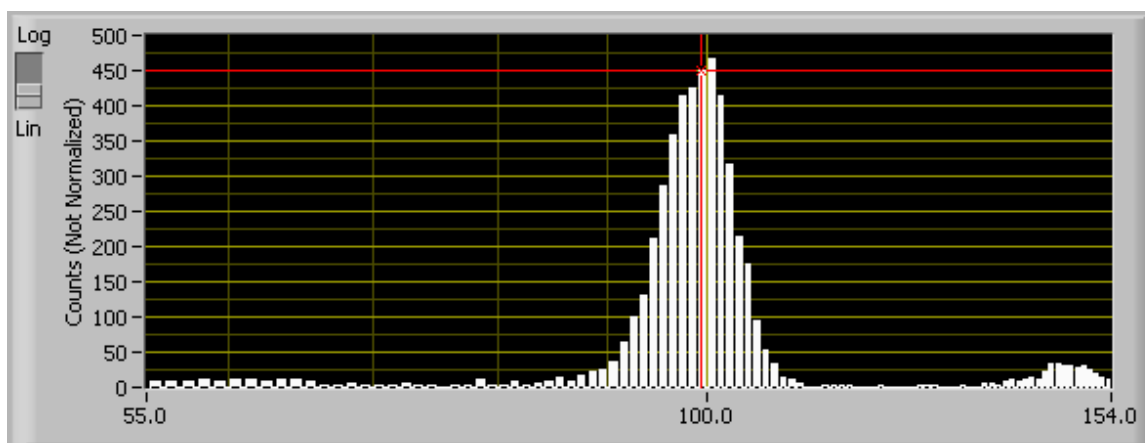
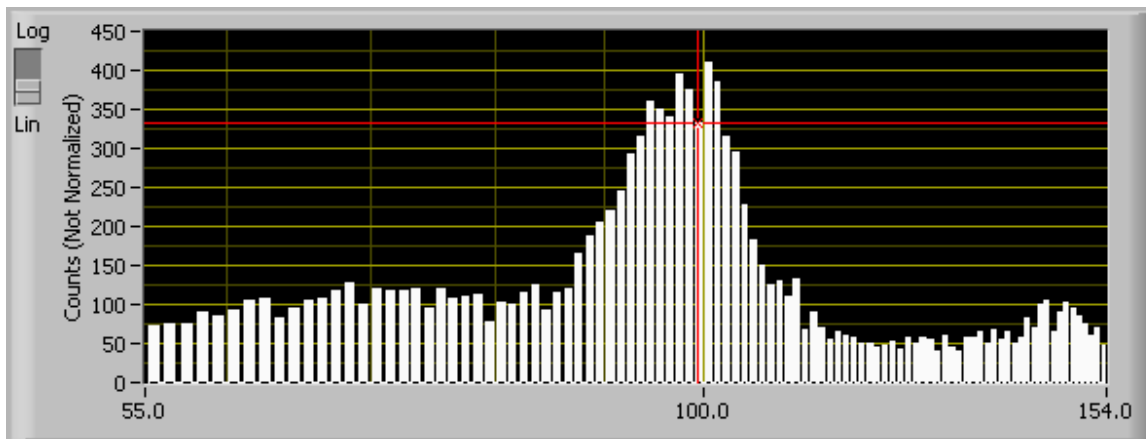
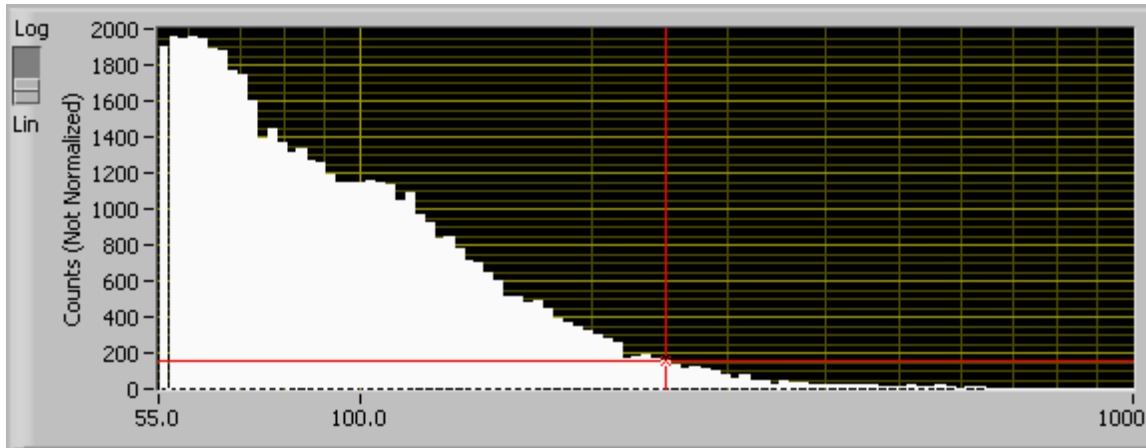
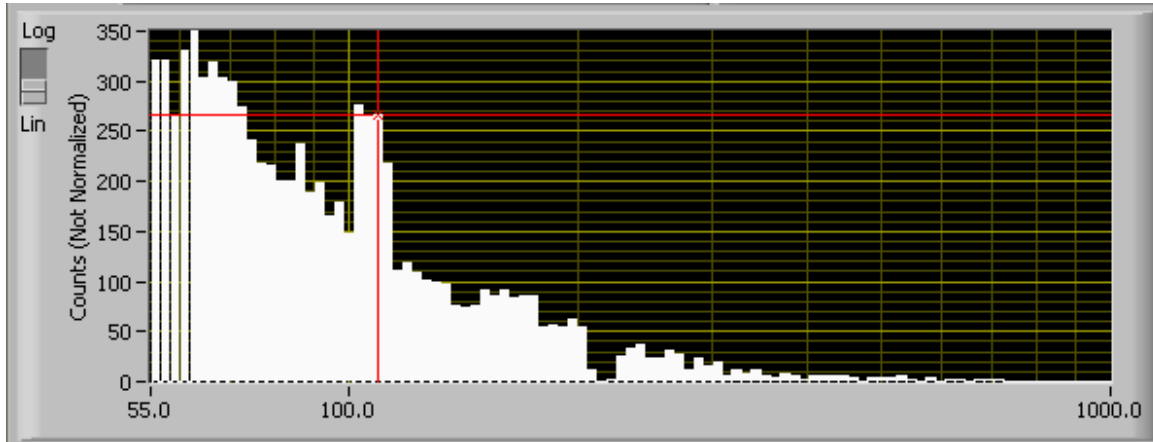

Figure 12: 100-nm Particle Distribution on a Properly Calibrated Instrument
Figure 13: 100-nm Particle Distribution on an Instrument that Needs Calibration
Figure 14: Ambient-Air Distribution on a Properly Calibrated Instrument
Figure 15: Ambient-Air Distribution on an Instrument that Needs Calibration
- 15.) The histogram should show a tight distribution with a peak near 100 nm (Figure 12). There should be relatively few particles in bins below and above the peak. The instrument may need calibration if the peak is poorly resolved with a broad distribution of particles (Figure 13). Calibration may also be required if the peak is significantly higher or lower than 100 nm. Calibration may also be required if the peak is significantly higher or lower than 100 nm. *Note:* Figure 12 through Figure 15 are from an older version of the software; however, for the situations described, the histogram shapes will appear similarly in the new software.
- 16.) Sample the ambient air. The histogram distribution should show a smooth transition of particle counts from small to large bins (Figure 14.) Small “bumps” in the distribution are normal. If you see an uneven distribution of particles around 110 nm and/or 215 nm (Figure 15), this is usually an indication that calibration is needed. The anomalies are near the calibration curve’s gain-overlap regions, which need to be “stitched” together more accurately.